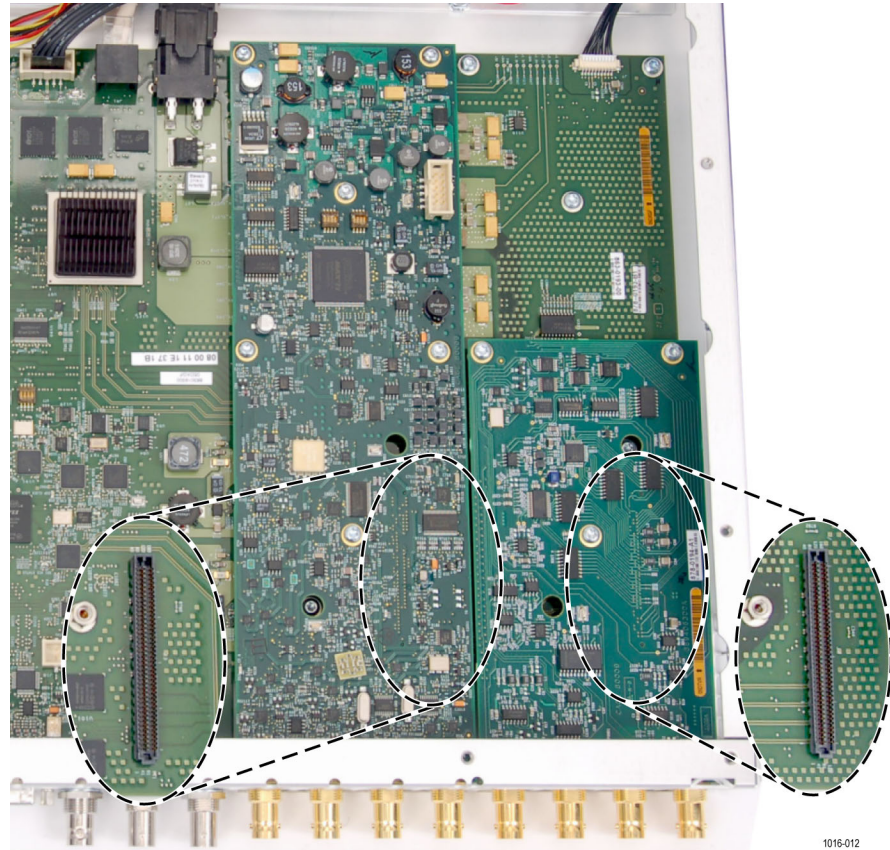

Figure 11: CPS board connector location
5. Make sure the connector on the bottom of the CPS board and main board line up. (See Figure 11.) Pressing only over the location of the connector, gently press the CPS board down until the connectors engage. The CPS board should sit firmly on all three posts.